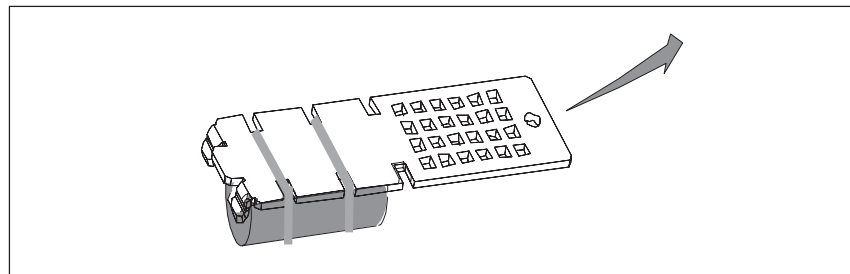

Figure 11-2 Battery Cover
2. Lift the cover up and to the right (see Figure 11-2). Make sure you raise the cover only as far as the battery connections allow.